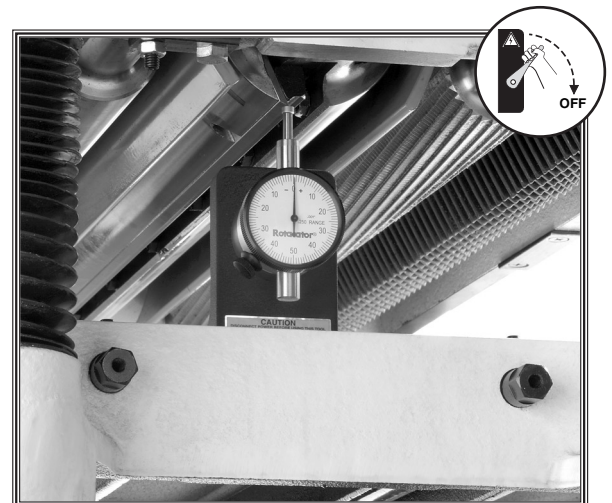

Figure 26. Finding BDC with the Rotacator.
5. Using your Rotacator, find BDC of any knife edge by slowly rocking the cutterhead pulley back and forth, and set the Rotacator dial to zero, as shown in Figure 26.